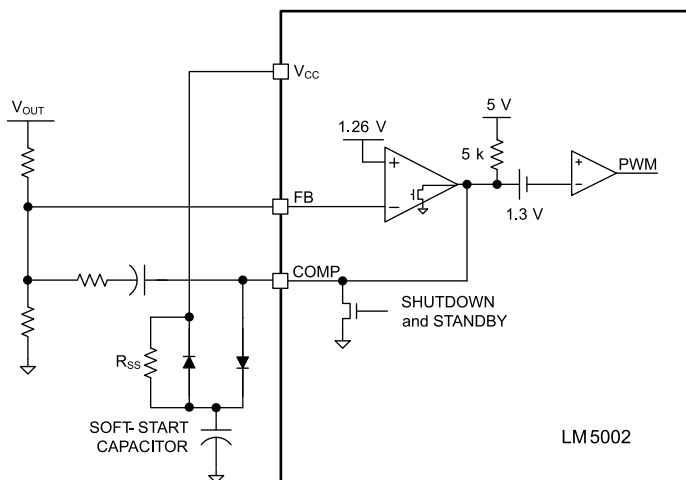

Figure 8-4. Soft-Start Circuit
Internal thermal shutdown circuitry is provided to protect the IC in the event the maximum junction temperature is exceeded. When the 165°C junction temperature threshold is reached, the regulator is forced into a low power standby state, disabling all functions except the VCC regulator. Thermal hysteresis allows the IC to cool down before it is re-enabled. Note that because the VCC regulator remains functional during this period, the soft-start circuit shown in Figure 8-4 must be augmented if soft start from thermal shutdown state is required.
Soft start (SS) can be implemented with an external capacitor connected to COMP through a diode as shown in Figure 8-4. The COMP discharge MOSFET conducts during Shutdown and Standby modes to keep the COMP voltage below the PWM offset (1.3 V), which inhibits PWM pulses. The error amplifier attempts to raise the COMP voltage after the EN pin exceeds the 1.26 V standby threshold. Because the error amplifier output can only sink current, the internal COMP pullup resistor (approximately 5 k Ω) supplies the charging current to the SS capacitor. The SS capacitor causes the COMP voltage to gradually increase until the output voltage achieves regulation and FB assumes control of the COMP and the PWM duty cycle. The SS capacitor continues charging through a large resistance, R_{SS}, preventing the SS circuit from interfering with the normal error amplifier function. During shutdown, the VCC diode discharges the SS capacitor.